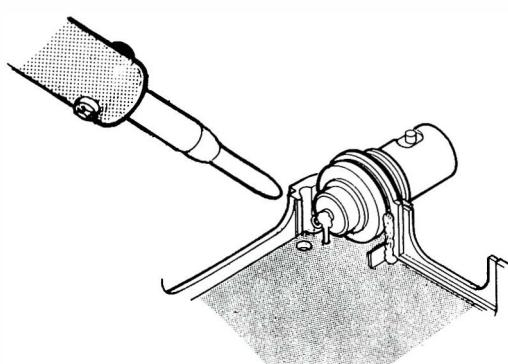

Figure 6.
- Unsolder the antenna lead from the BNC jack center conductor, and the ground tab from the base (see Fig. 6). Slide the Mother Unit out from rear case, being careful with the RF Power Module leads